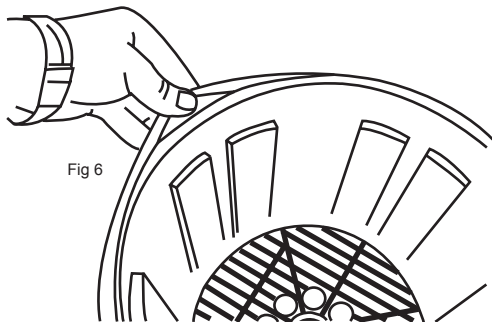

Fig 6
9. Place the O-Ring in the channel at the top of the canister. Fig 6